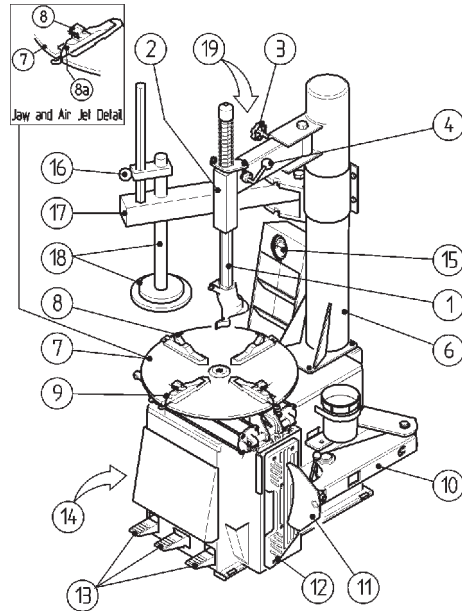

Figure 1.2-1
**Inflation Gauge** is mounted into the storage cabinet. (15, Fig. 1.2-1)